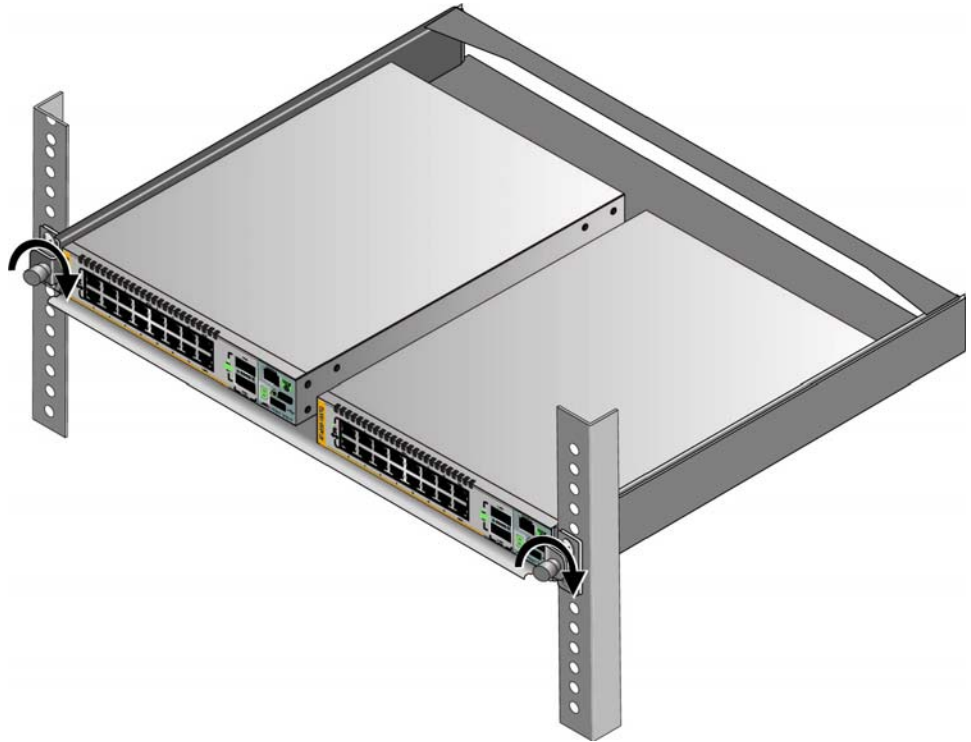

Figure 31. Tightening the Two Thumbscrews on the AT-RKMT-J15 Bracket
11. Tighten the two thumbscrews to secure the tray to the bracket. Refer to Figure 31 on page 61.